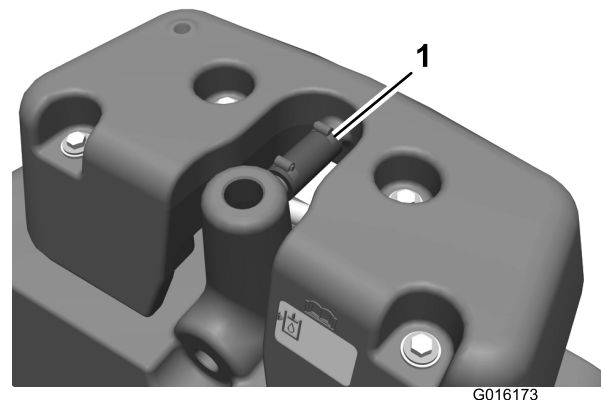

Figure 2
8. Loosen the worm-drive clamps and remove the overflow hose (Figure 2).
1. Remove plug from main hydraulic tank here 2. Indicator arrow on nut (2) hydraulic tank here
24. Secure the free end of the overflow hose to the tube on the leak detector tank with a worm-drive clamp (Figure 2).